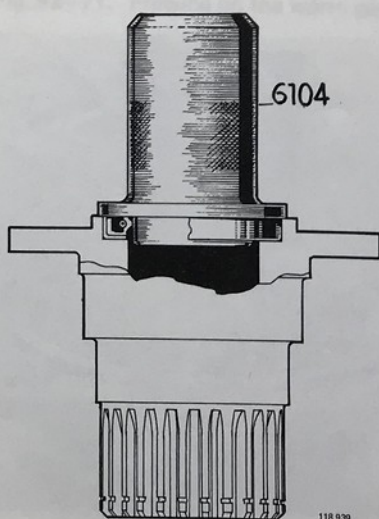

Fig. 92-82. Pressing in the support shaft
20. Press the seal into the support shaft with 6104, see Fig. 92-82. The seal must face as shown in the Fig.